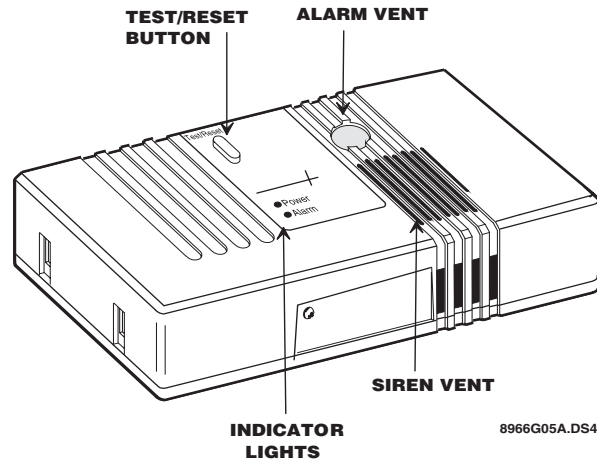

Figure 1. CO Alarm Features
The Learn Mode™ Carbon Monoxide (CO) alarm detects hazardous levels of CO gas. If a dangerous concentration of gas is detected, a red indicator light turns on and an internal siren is activated. The CO alarm also transmits an alarm signal to the control panel within 15 seconds of detecting CO gas (see Figure 1). The control panel activates its own sirens and reports the alarm to the central monitoring station (if the system is monitored).
Hold one hand over the siren vent (see Figure 1) while pressing the test button to muffle the siren.